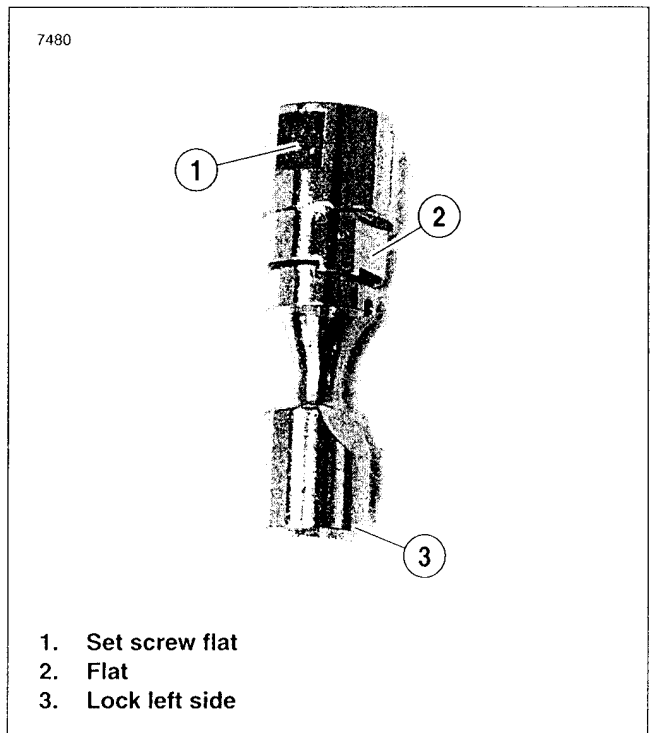

Figure 2-125. Fork Lock
- *See Figure 2-125. There is a flat in the bottom of the lock into which the set screw fits. This flat must be at the bottom when the lock is installed.*